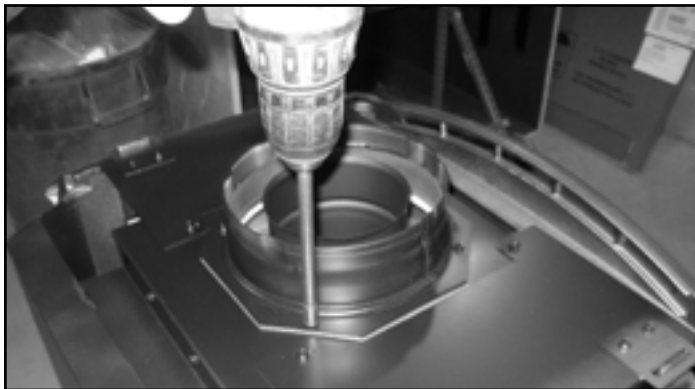

Figure 2
6. Place rear access plate and gasket over top vent and attach with the four screws removed in Figure 2.